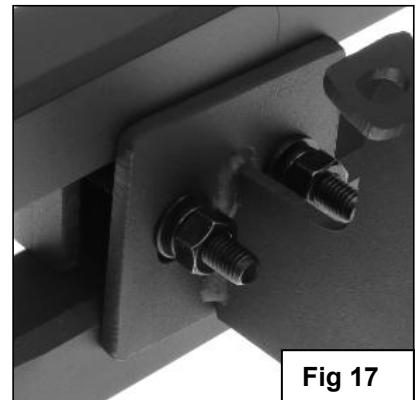

Fig 17
11. Select the Driver Side Bar. Slip (2) M10X1.5-75 Carriage Bolts into each 2-Hole Support Brackets ,and insert the 2-Hole support bracket into the Driver Side Bar.**(Fig 16)**. Carefully position the Bar onto the (3) Mounting Brackets. **IMPORTANT:** Do not slide the Bar on the Brackets or damage to the finish may result. Attach the Driver Side Bar to the Mounting Brackets with (2) M10 Hex Nuts,(2)M10 lock washers and (2)M10 flat washers, **(Fig 17)**. Do not tighten hardware.